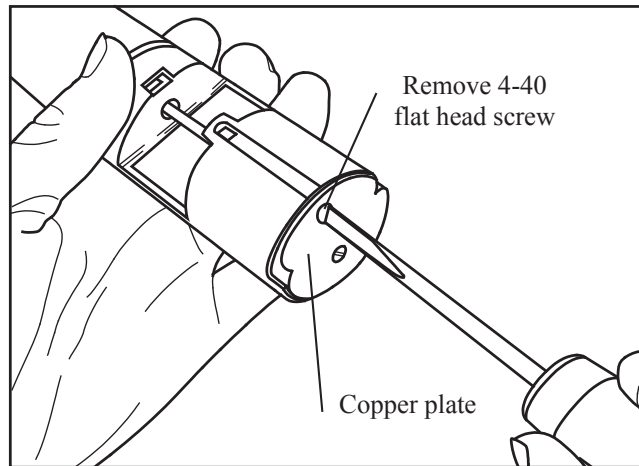

FIGURE 7-9. Remove the screw
2. Remove the 4-40 flat head screw and copper plate to expose the drive shaft access port (FIGURE 7-9).